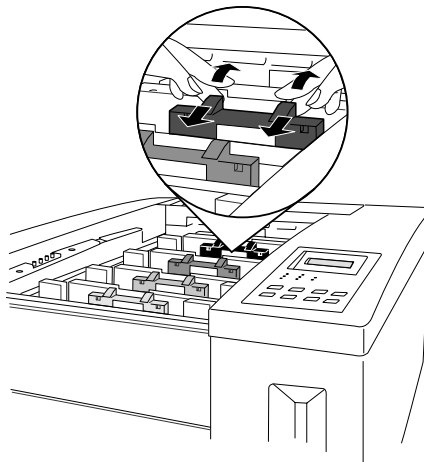

Fig. 6.2 Release the Developer Cartridge
5. Release the developer cartridge from its securing latches by pressing back on the latches while pulling forward on the cartridge (fig. 6.2). The securing latches are color coded (black, cyan, magenta, or yellow) to the color of the developer cartridge.